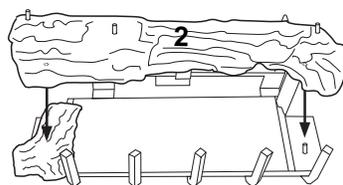

Figure 41 - Installing Log No. 2
3. Place logs #3 (rear log) onto pin on rear of grate as shown in Figure 41.